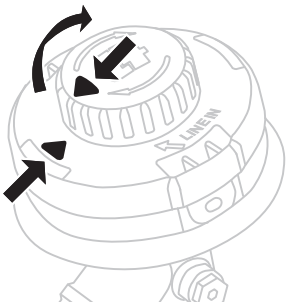

Fig. 1A
1. Align the arrow on the bump knob with the one on the spool cartridge (Fig. 1A).